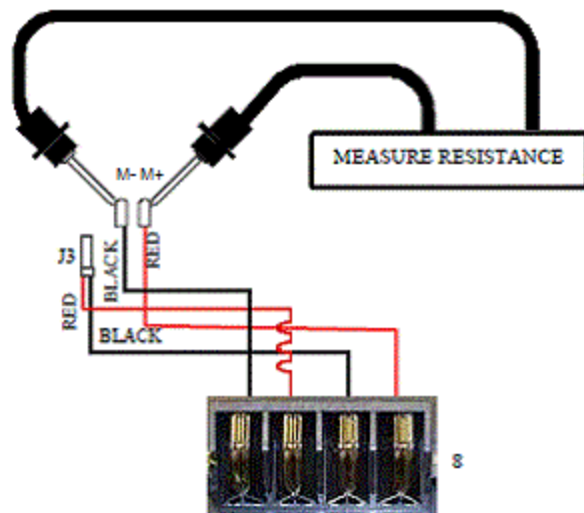

Figure 28. Connectors M-M+, J3, and 8
5. Disconnect the (M- and M+) connections on the front intermediate harness (8) from the controller.
6. Measure resistance across the front intermediate harness (M- and M+). **See figure 28.**